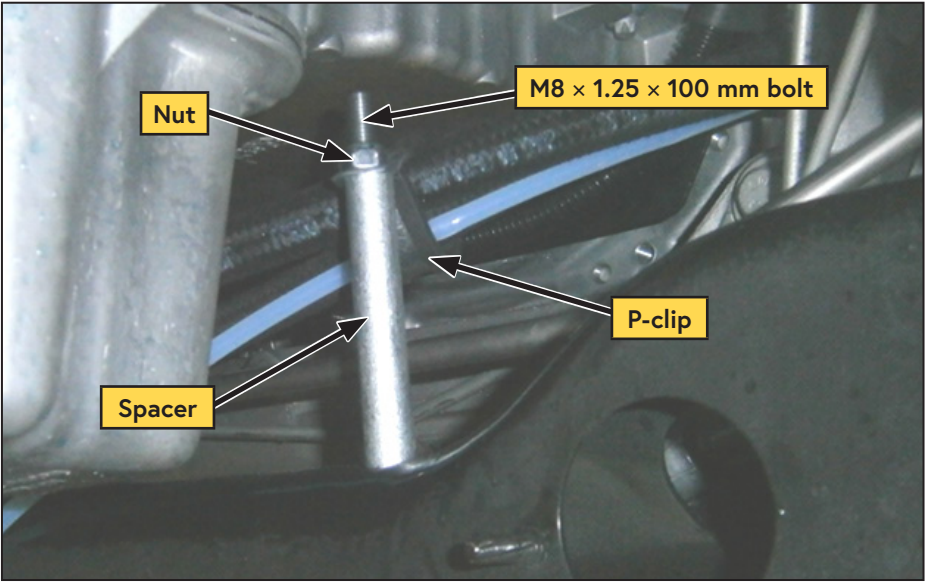

Figure 37 — Install P-clip mount
- Route all 3 hoses through the P-clip, then position the hoses towards the rear of the vehicle (Figure 37).